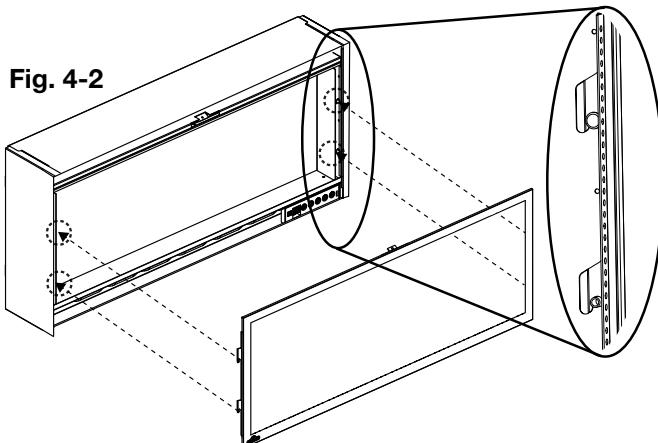

Fig. 4-2
- Install the front glass by aligning the pins on the appliance. Move the glass in and down to engage with the brackets (**Fig. 4-2**).